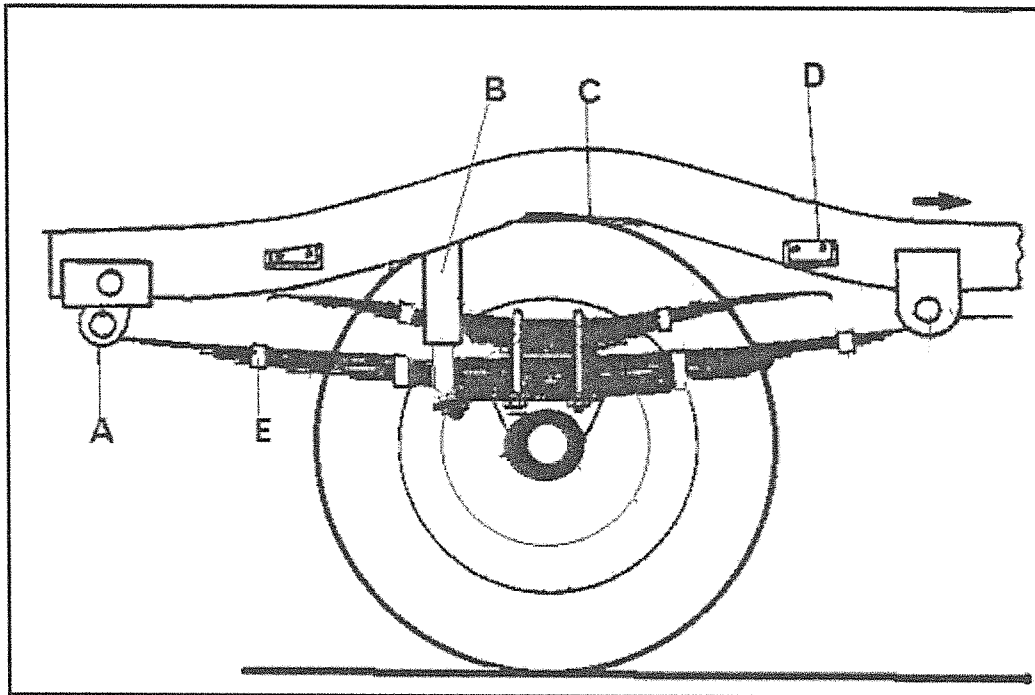

FIGURE 3
3.1 FIGURE 3 below here, shows a spring blade pack.
- 3.2 Name the type of spring blade pack shown in FIGURE 3. (1)